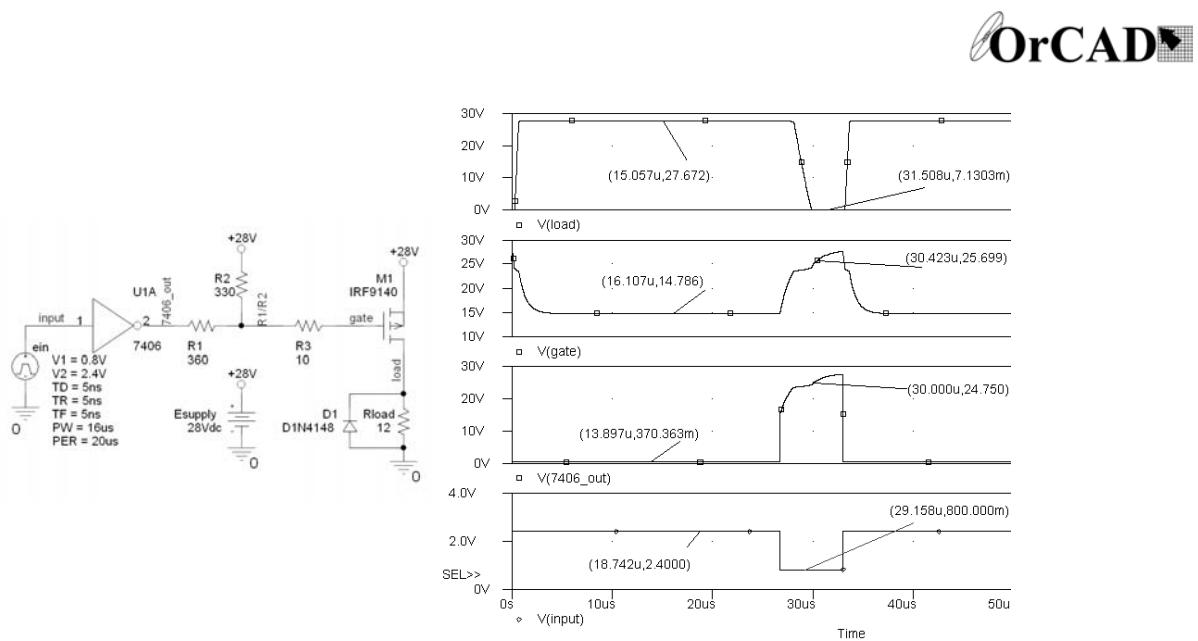

Figure 6-23 Simulation of Example 6-9 node voltages
4. The waveforms with node voltages are shown in Figure 6-23. There is good agreement between the manually calculated values and those predicted by OrCAD. The differences are because the manual calculations use the worst case values for the IRF9530. The simulation uses typical values .